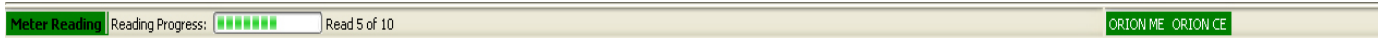

Figure 13: Status bar after loading route
- Read X of Y Provides the meter reader with the number of endpoints loaded in the software and the total number of endpoints that have been read. In Figure 13, **5 of 10** meter endpoints have been read.
- ORION ME/ORION CE Either ORION ME (when an ORION ME FHSS mobile transceiver is connected) and/or ORION CE (when an ORION CE FHSS mobile receiver is connected) will display in the lower right status bar to indicate communication status between the ORS software and the mobile transceiver and/or receiver. Green indicates good communication. Red indicates no communication. In Figure 13, both the ORION ME and ORION CE show good communications status.